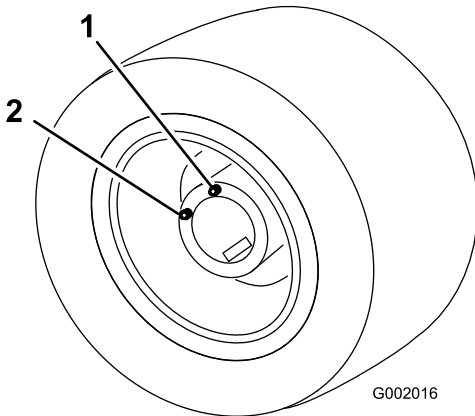

Figure 63
5. Move the vehicle slowly until the wheel is positioned for filling as illustrated in Figure 63